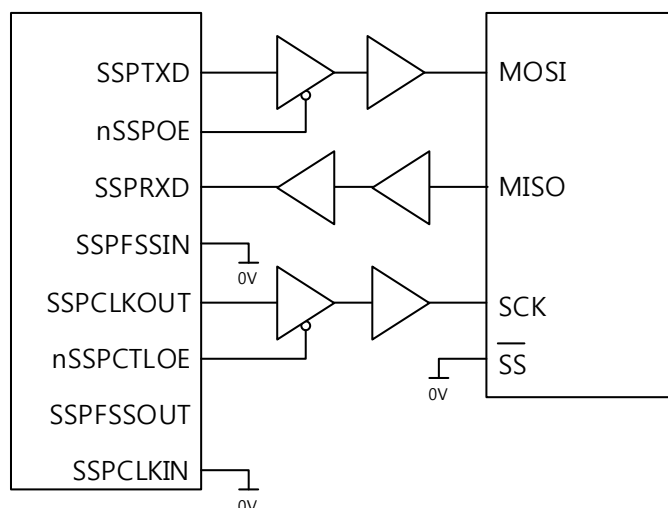

Figure 77. PrimeCell SSP master coupled to an SPI slave
Figure 77 shows how a PrimeCell SSP (PL022) configured as master, interfaces to a Motorola SPI slave. The SPI Slave Select (SS) signal is permanently tied LOW and configures it as a slave. Similar to the above operation, the master can broadcast to the slave through the master PrimeCell SSP SSPTXD line. In response, the slave drives its SPI MISO port onto the SSPRXD line of the master.